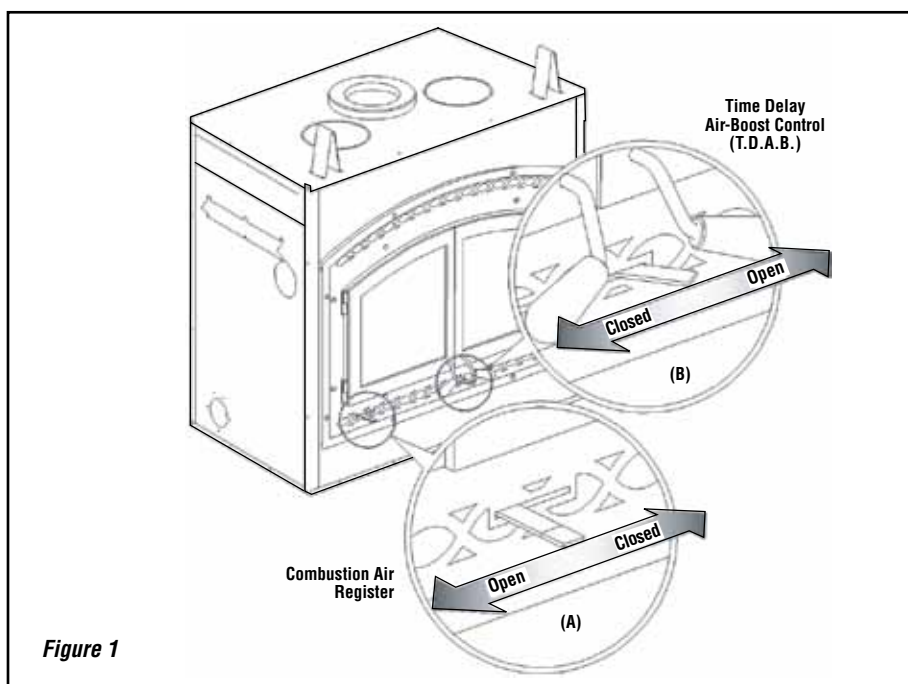

Figure 1
The combustion air control should be opened before opening the doors to minimize the possibility of back draft coming into the room (**Figure 1-A**) More details are available in *Refueling For Best Performance* on **Page 5**.
The register gradually reduces the amount of air injected, allowing for a better start of the fire, whatever the conditions (See sections *Building a Fire* and *Refueling For Best Performance* for proper sequence of operation). This allows you to start the fire, set the primary air control to the desired burn level and the fireplace will automatically adjust itself to that level once the fire is fully established (**Figure 1-B**).
- A. Completely open the air control level and the T.D.A.B. (Time Delay Air Boost) level. See **Figure 1**.